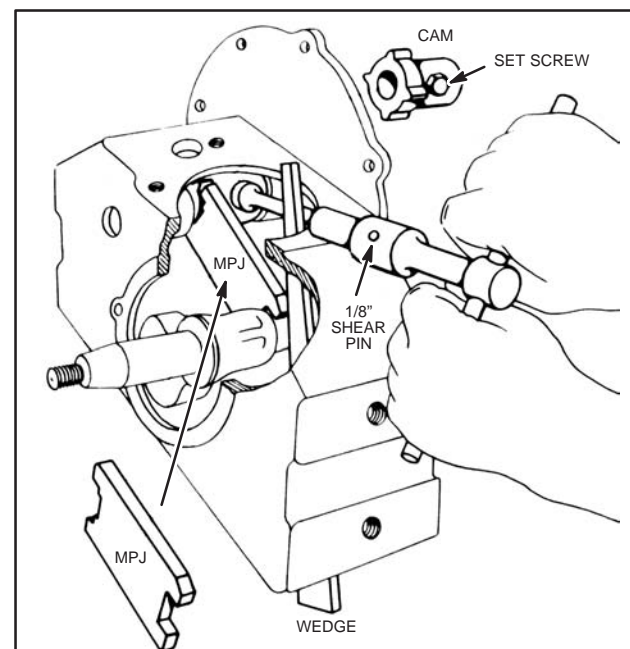

Fig. 883 – ASSEMBLE CAM GEAR, MODEL PB
Place Timing Tool #MPJ (NLA) between cam and crankpin as shown in Fig. 883. Use a wedge 10" long as shown to hold crankshaft in place. Use Socket Wrench, Tool #13A33-T1\* (NLA) and 13A33-T2\* (NLA) to tighten the set screw on cam. A piece of 1/8" round cold rolled steel is used as a shear pin between the two (2) ends of the wrenches, and the set screw is tightened until the 1/8" cold rolled steel is sheared off. Allow end play of about .005" on cam before tightening set screw.